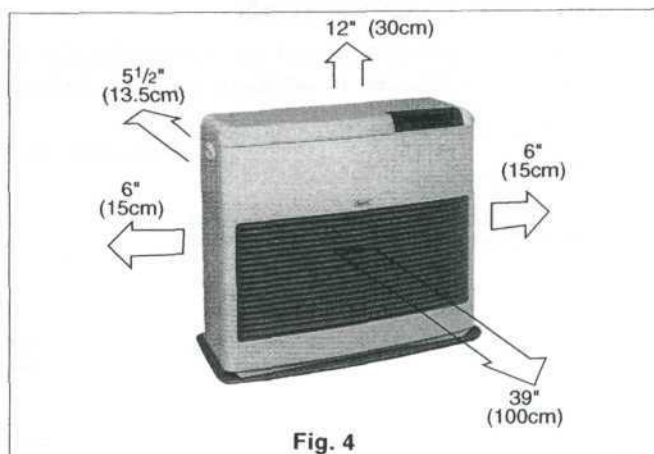

Fig. 4
- The area around the heater should be free of obstacles that might interfere with the free flow of air. Allow the clearances shown in Figure 4.